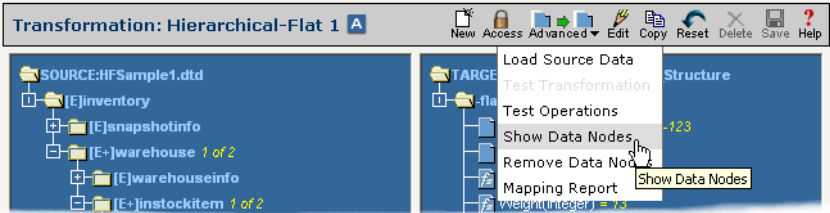

Figure 18-10. Select “Show Data Nodes” from the **Advanced** menu icon if you want to display only those data elements that hold data.
- 1 If you want to set the Transformation Map screen to display only those data elements which hold content, select “Show Data Nodes” from the **Advanced** toolbar item (see Figure 18-10 below).